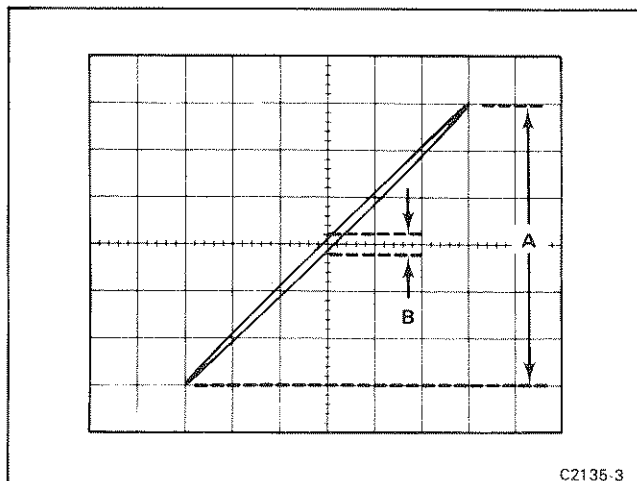

Fig. 1-9. Phase difference measurement from an X-Y display.
4. Advance the INTENSITY control until the display is at the desired viewing level. Set the amplifier deflection factors and variable Volts/Div controls for six divisions of vertical and horizontal deflection, and set the position controls to center the display on the graticule as shown in Fig. 1-9.
5. Measure and record the overall vertical deflection (A) and the opening of the Lissajous display (B), measuring vertically at the graticule horizontal center line (see Fig. 1-9).
EXAMPLE: Assume a display as shown in Fig. 1-9, where A is 6 divisions and B is 0.4 division.